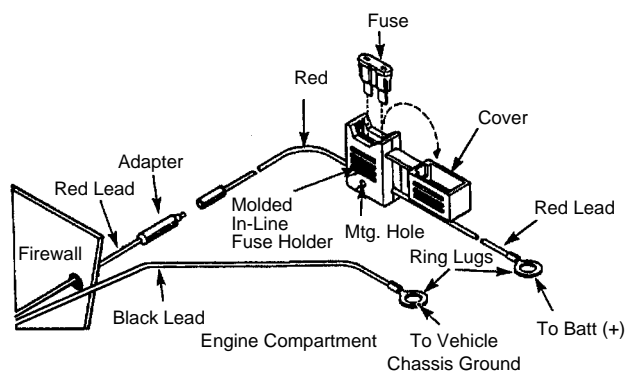

Figure 10 Power Cable Assembly
13. Install ring lugs (supplied) onto stripped end of power cable black lead and onto stripped end of red lead on fuse holder (See Figure 10).
14. Locate the fuse holder as close to the battery as possible and away from any hot engine component. Connect the fuse holder red adapter lead plug to the mating receptacle on the red lead of the power cable (See Figure 10).
16. Plug the fuse into the in-line fuse holder (See Figure 10).